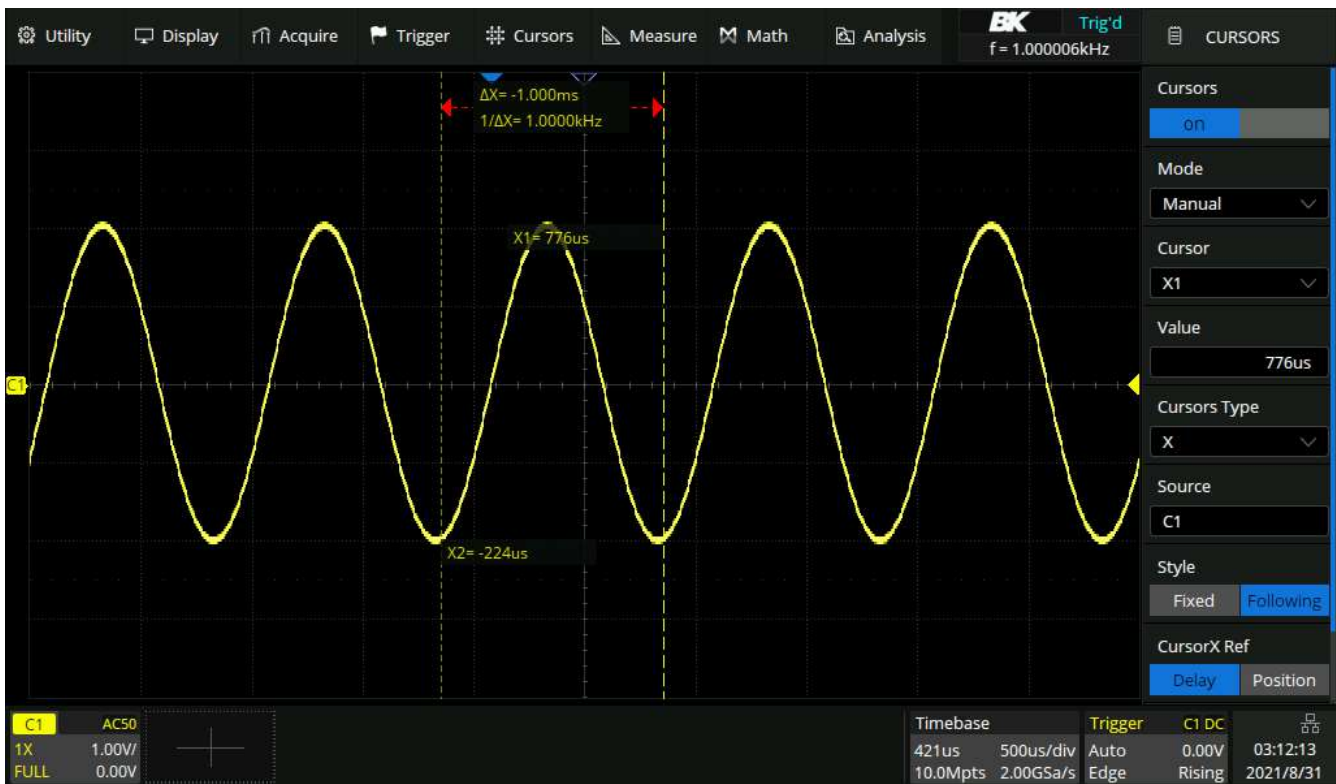

Figure 11.1 Manual Cursor Mode
- *Manual*: Manually set the cursors' position. Cursors type (horizontal, vertical, horizontal + vertical) is available in this mode. Figure 11.1 demonstrates manual mode with horizontal cursors.